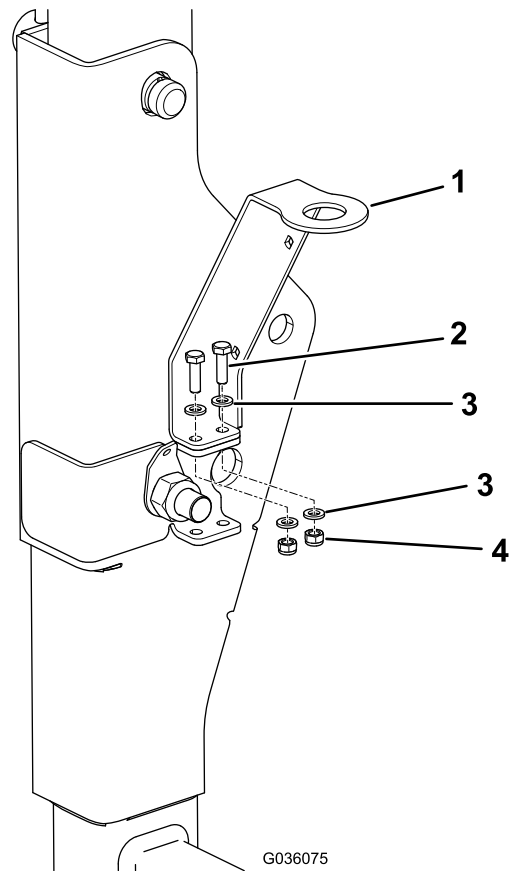

Figure 3
5. Align the small holes in the beacon bracket with the upper holes in the ROPS bracket (Figure 3), and secure the brackets with the 2 small bolts, 4 small washers, and 2 small locknuts.